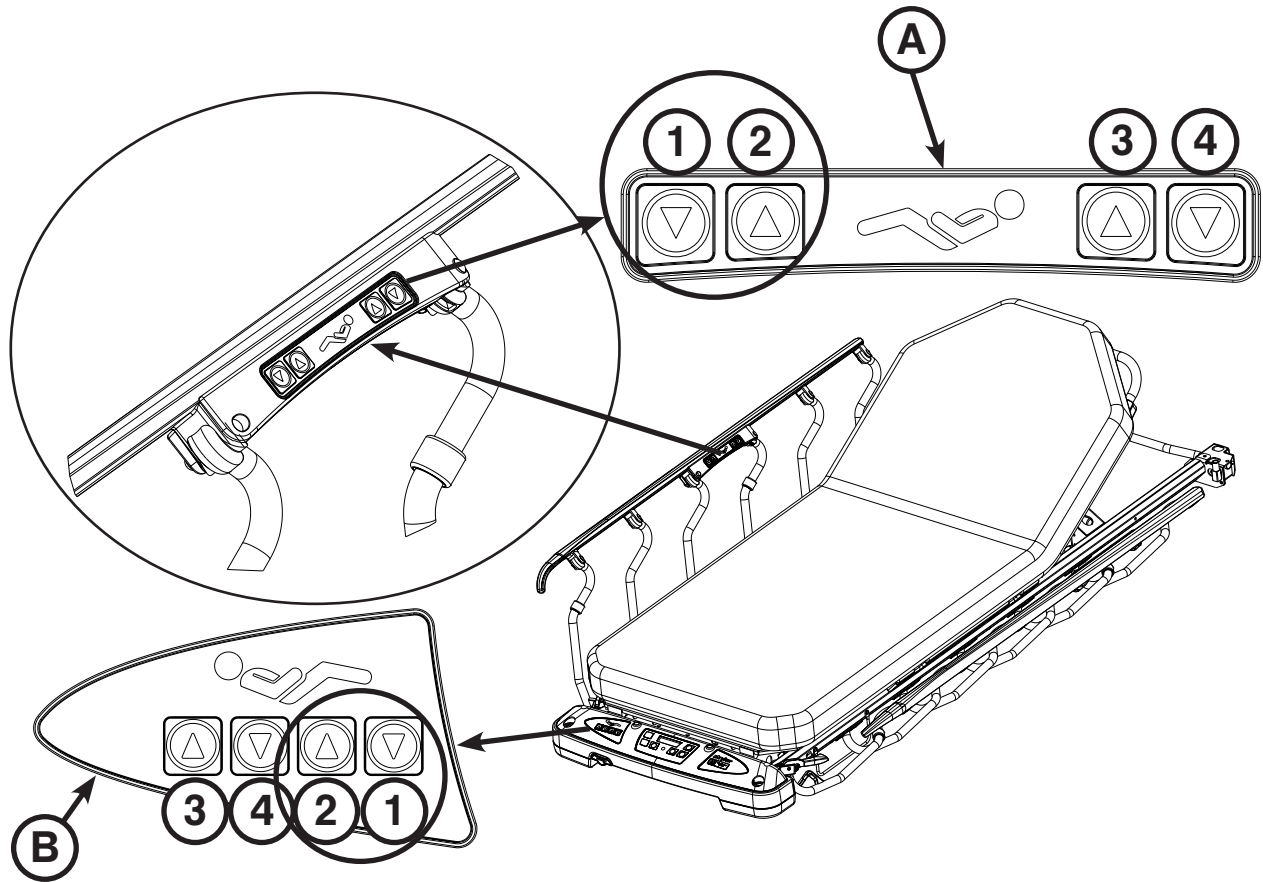

Figure 13: Gatch - Electric Option
To raise the gatch, press the UP (2) button on the siderail patient controls (A) or foot end nursing controls (B) until the gatch has reached the desired height (5.5"/14 cm minimum) as shown in Figure 13.
To lower the gatch, press the DOWN (1) button until the gatch has reached the desired height (5.5"/14 cm minimum) as shown in Figure 13.